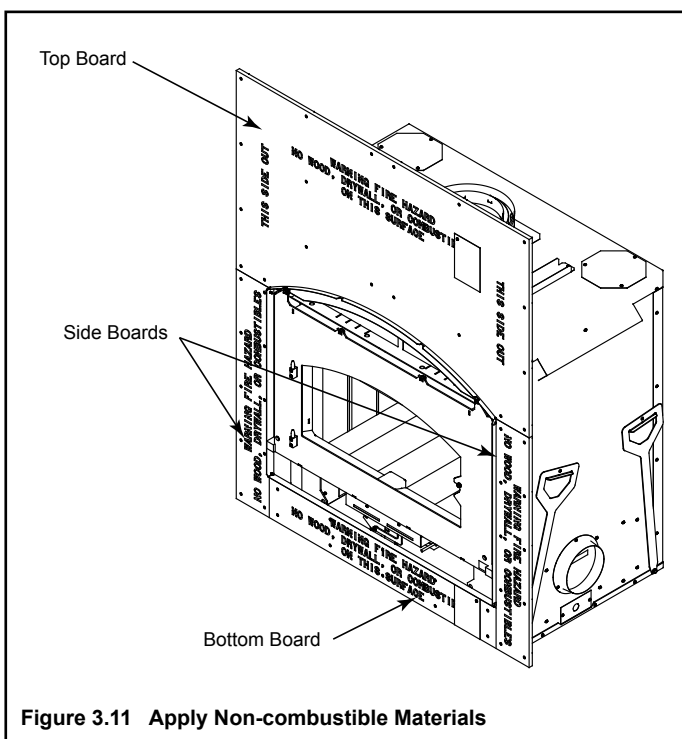

Figure 3.11 Apply Non-combustible Materials
- Attach the bottom board to the bottom of the fireplace outer shell with enclosed screws, ensuring the board is centered. **DO NOT remove hang tags.** Attach the side pieces to the outer shell and framing members. See Figure 3.11.